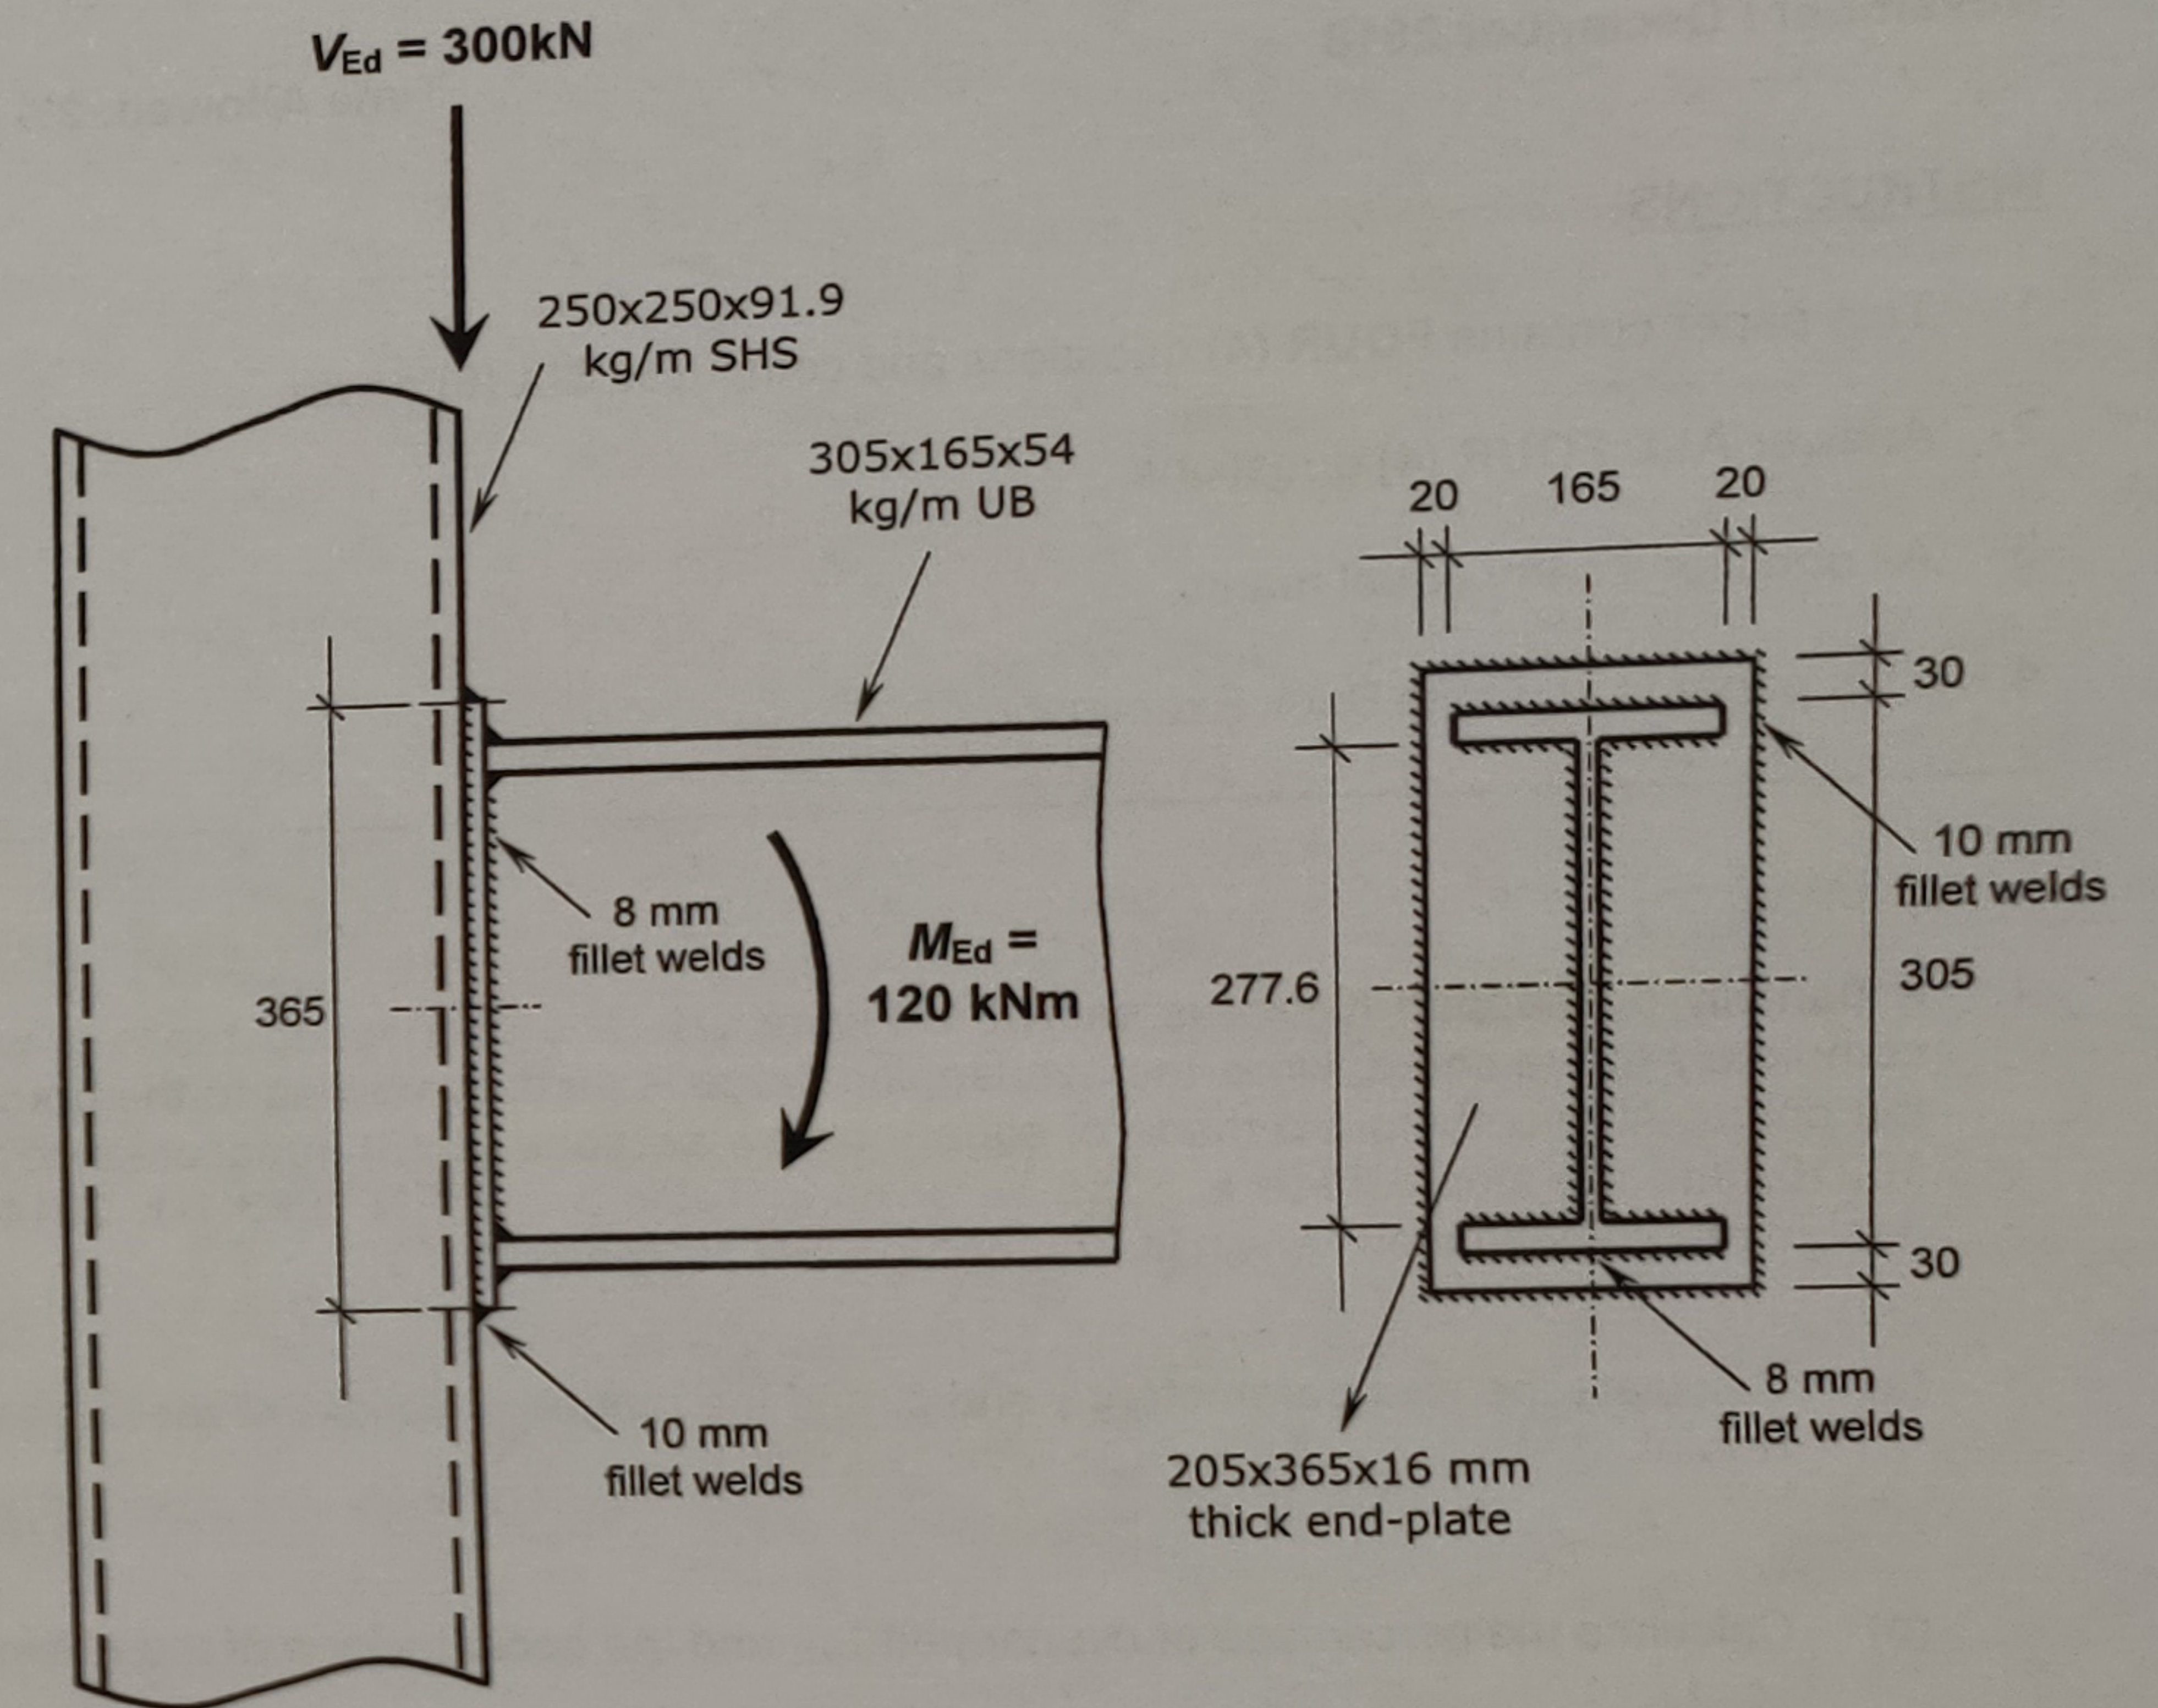

Figure Q2
- ① overlapped k-joint (calc e)
- ② Perpendicular moment welded
- ③
- ④
2. Figure Q2 shows a rigid welded moment connection. It is subjected to design moment $M_{Ed}=120 \text{ kNm}$ and shear force $V_{Ed}=300 \text{ kN}$. A $305 \times 165 \times 54 \text{ kg/m}$ UB is welded to a 16 mm thick end-plate, and in turn, the end-plate is welded to the flange of $250 \times 250 \times 91.9 \text{ kg/m}$ square hollow section (SHS) using 10 mm fillet welds around the plate. All the welds are made of Grade S275 steel.